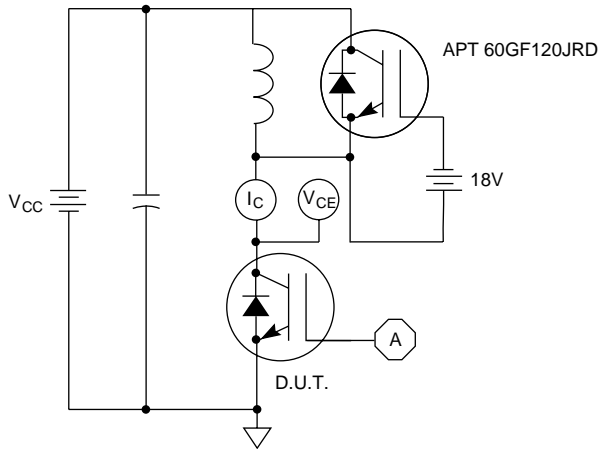

Figure 21. Inductive Switching Test Circuit
⑤ E_{on2} is the clamped inductive turn-on energy that includes a commutating diode reverse recovery current in the IGBT turn-on switching loss. A Combi device is used for the clamping diode as shown in the E_{on2} test circuit. (See Figures 21, 22.)
⑥ E_{off} is the clamped inductive turn-off energy. (See Figures 21, 23.)